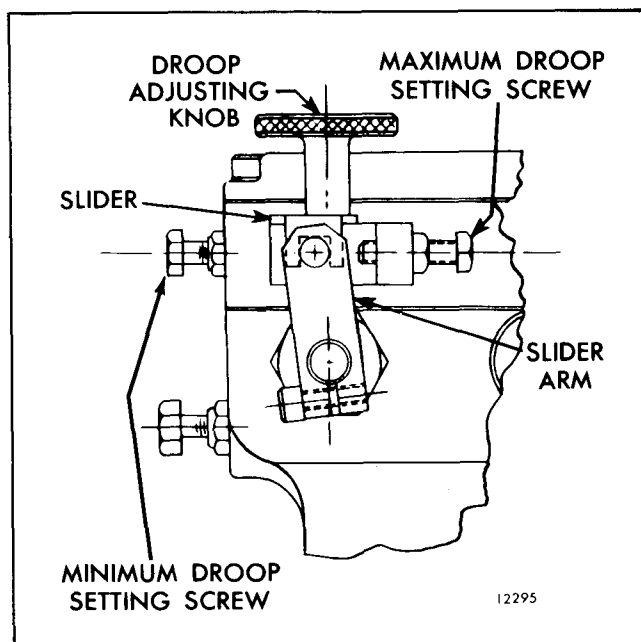

Fig. 6 - External Droop Control on PSG Isochronous Governor
5. Loosen the droop adjusting knob (Fig. 6) and move the slider all the way in toward the engine and then tighten the knob.